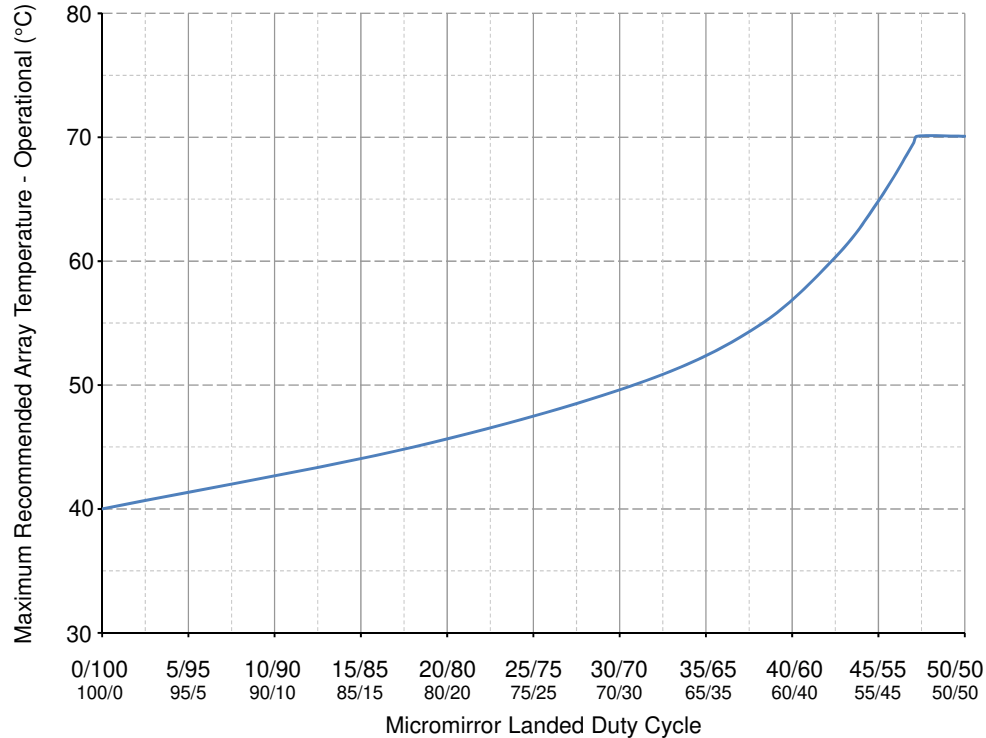

図 5-1. Maximum Recommended Array Temperature—Derating Curve
- (11) Per 図 5-1, the maximum operational array temperature should be derated based on the micromirror landed duty cycle that the DMD experiences in the end application. Refer to セクション 6.9 for a definition of micromirror landed duty cycle.
- (12) Long-term is defined as the usable life of the device.
- (13) Short-term is the total cumulative time over the useful life of the device.
- (14) The average over time (including storage and operating) that the device is not in the 'elevated dew point temperature range'.
- (15) Exposure to dew point temperatures in the elevated range during storage and operation should be limited to less than a total cumulative time of CT_{ELR}.
- (16) The active area of the DMD is surrounded by an aperture on the inside of the DMD window surface that masks structures of the DMD device assembly from normal view. The aperture is sized to anticipate several optical conditions. Overfill light illuminating the area outside the active array can scatter and create adverse effects to the performance of an end application using the DMD. The